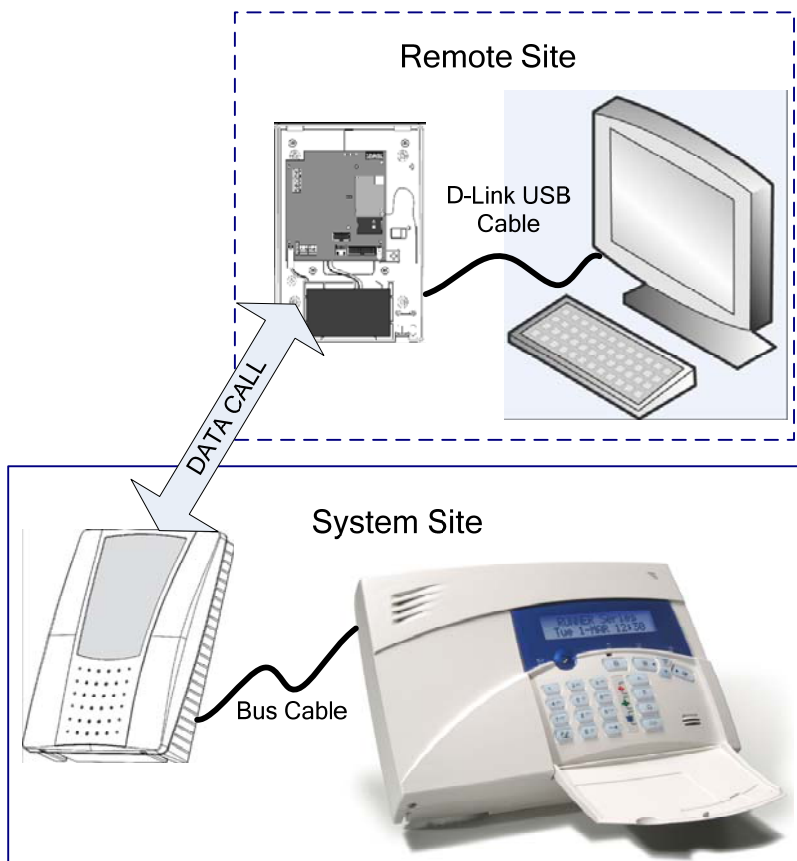

Figure 1: Remote Configuration Setup
1. Ensure that the remote site hardware is setup as shown in Connect the remote site as shown in Figure 1 above..